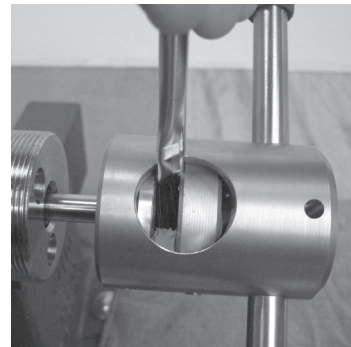

Fig. 41 Removing the threading tool and chips
10. Remove the threading tool by rotating it clockwise until the threading die unthreads itself from the tube. Continue to remove chips from the threading die and threads as the threading tool is removed. Fig. 41.